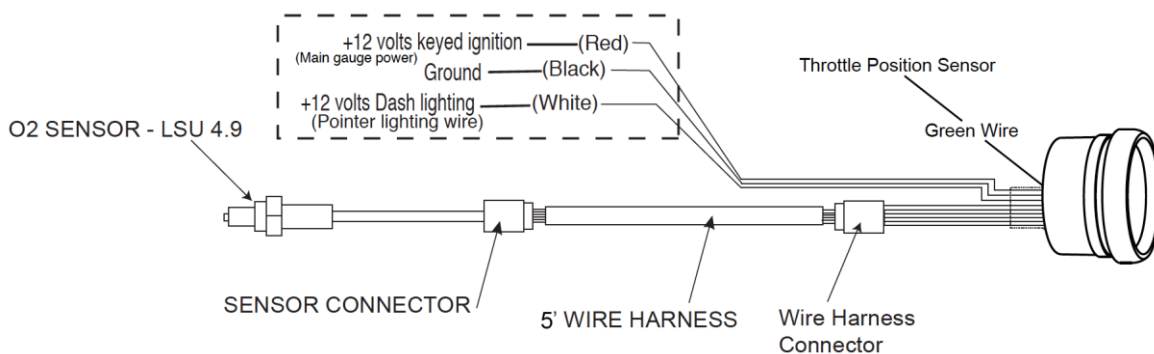

FIGURE 1
3. Connect power distribution wires to gauge. Install O2 sensor. Connect wires or harnesses (**Figures 1 and 2**). ***Power needs to be hooked up to switched source not common with other accessories.**